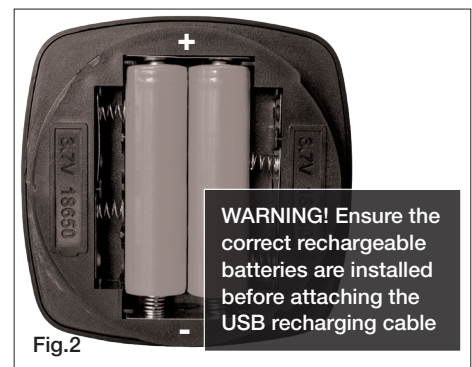

Fig.2
- Insert 2 x BRC 18650 batteries into the allocated battery slot ensuring the polarity is matching the polarity indicated on the battery compartment (fig.2).